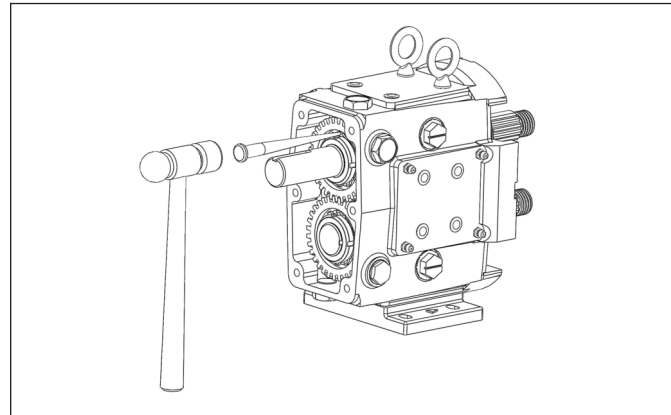
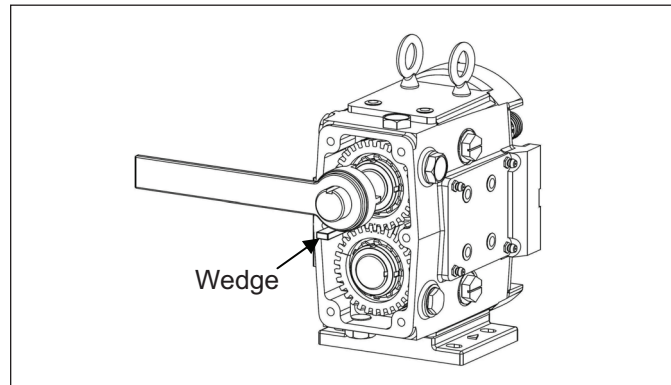

Figure 43. Bending Tabs on Lock Washers
Figure 44. Removing Lock Washers
2. Using a hammer and a punch, bend the tabs straight on the lock washers (*Figure 43*). Use a wedge (wood or plastic) to keep the shafts from turning while removing the lock nuts (*Figure 44*). Using a spanner wrench or the nut removal tool (available from Ampco), remove the gear lock nuts. Slowly remove the gears from the shafts. Remove the gear keys and gear spacers from the shafts.